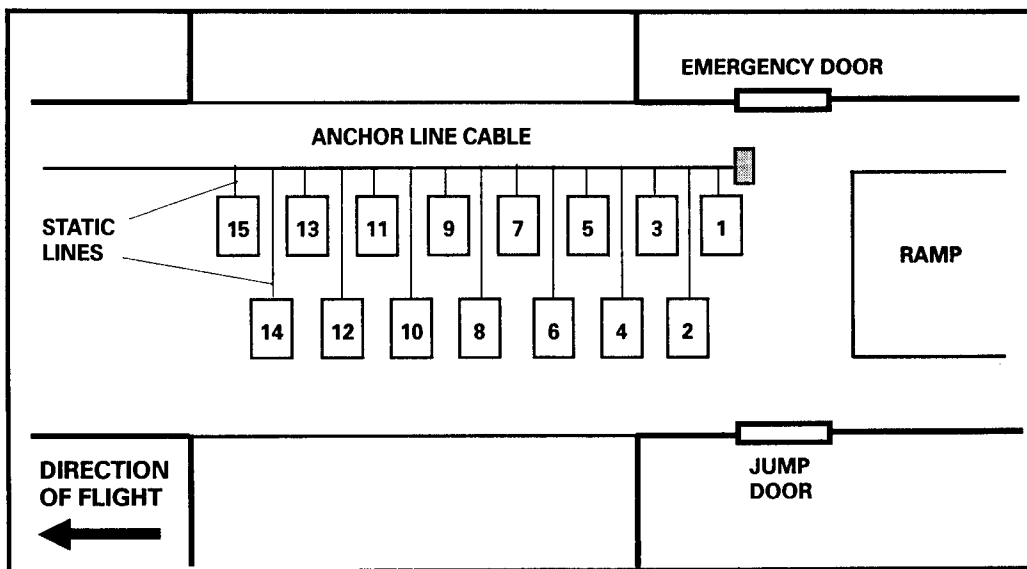

Figure 19-7. C-212 seating configuration.
Fifteen parachutists are seated in two sticks of jumpers (Figure 19-7). The odd-numbered personnel (8) are seated on the starboard side and the even-numbered personnel (7) are seated on the port side.